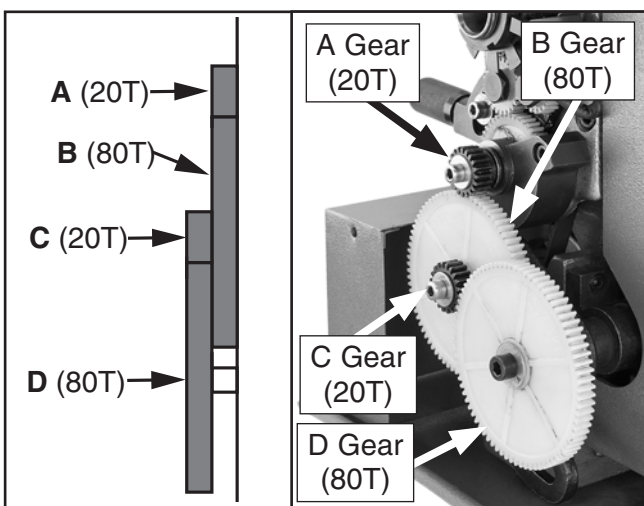

Figure 55. Power feed end gear configuration.
7. Replace A and C gears with 20T gears, and B and D gears with 80T gears (see **Figure 55** on **Page 43**). The printed gear letters should face outward.
The end gears are preset by the factory in this configuration, which is only used for power feeding. Mesh the top 20T A gear with the 80T B gear, and mesh the 20T C gear with the 80T D gear (see Figure 55).